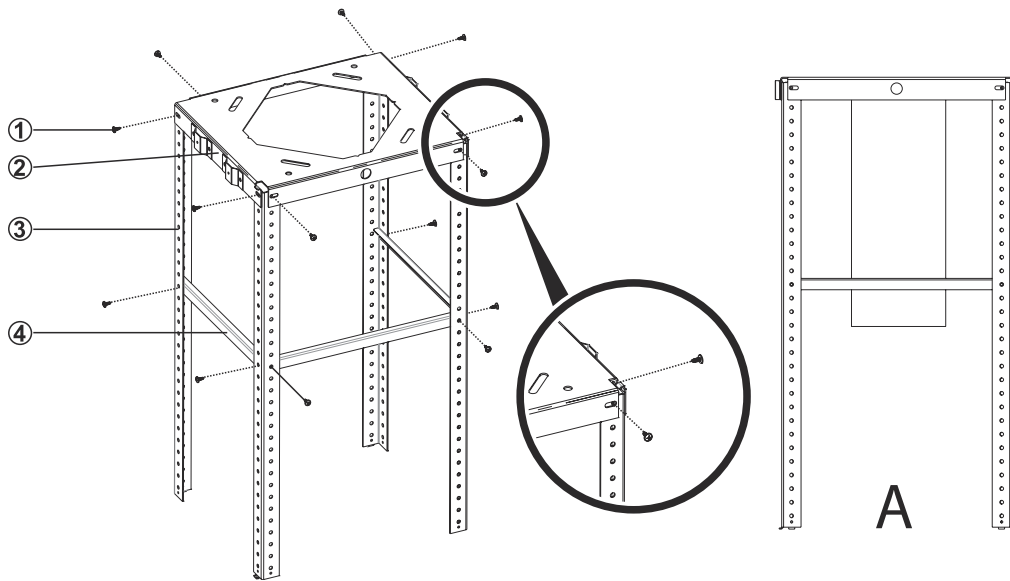

Fig. 11
1. ➤ Install product hanging bars (3) to ceiling hanging plate (2) with 8 pcs. 3.5 x 9.5 r phillips cylinder head screw (1) (Fig. 11).
2. ➤ Install product hanging bars to balance hanging bar balancing components (4) with 6 pcs. 3.5 x 9.5 r sb screw (1) (Fig. 11).
3. ➤ Make the air connections of the product (Fig. 11/A).